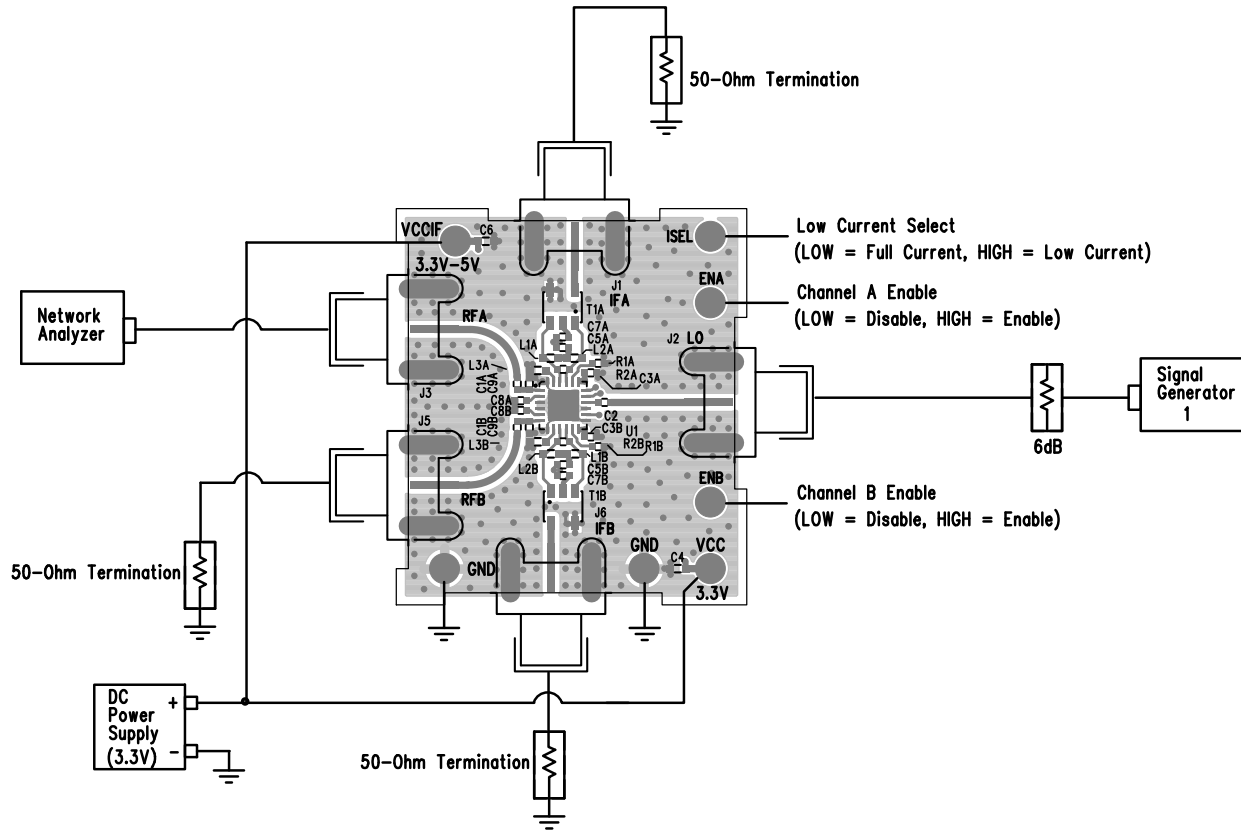
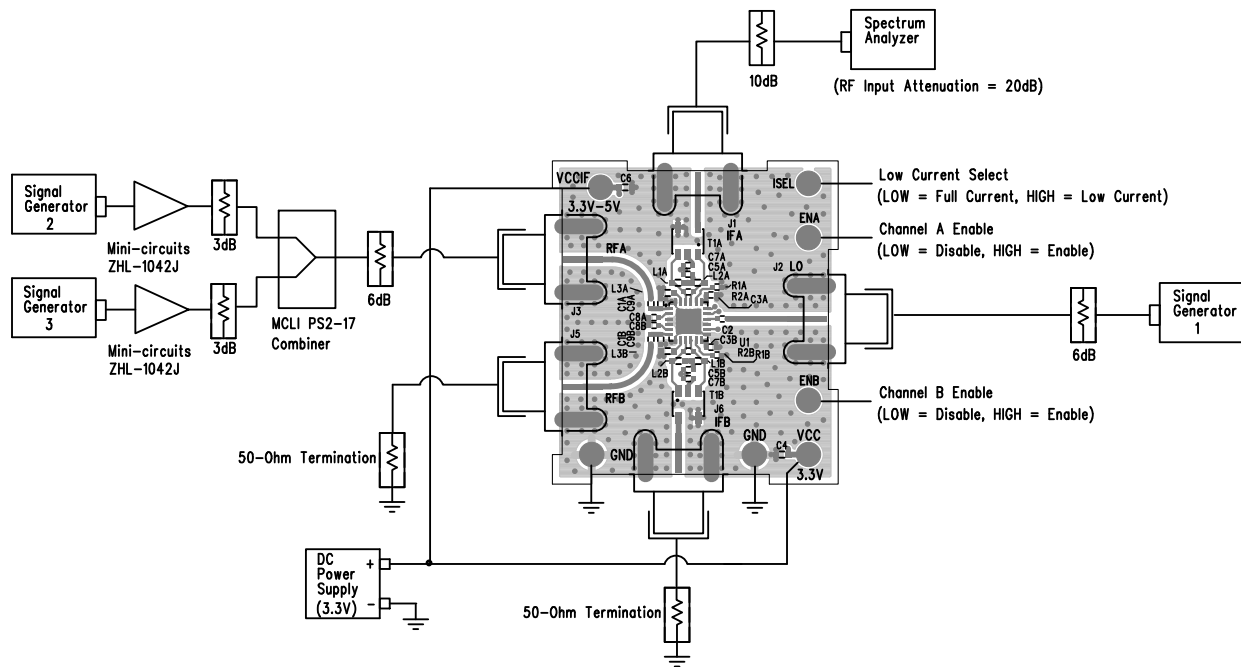

Figure 5. Proper Equipment Setup for Return Loss Measurements
Figure 6. Proper Equipment Setup for RF Performance Measurements
The LTC5591 is a dual high dynamic range downconverting mixer IC with very high input 3rd order intercept. Accuracy of its performance measurement is highly dependent on equipment setup and measurement technique. The recommended measurement setups are presented in Figure 5, Figure 6, and Figure 7. The following precautions should be observed:
The LTC5591 consists of high linearity passive double-balanced mixer cores and IF buffer amplifiers. Due to the bi-directional nature of all passive mixers the $\text{LO} \pm \text{IF}$ mixing products, also referred to as pseudo-image spurs, are always present at the RF input, typically at a level 12dB below the RF input signal. Mismatched impedances at the pseudo-image spur frequencies, such as when filters are used for SSB NF measurements, can significantly impact the linearity and noise figure measurements. To avoid interference from the pseudo-image spurs, terminate the RF input port with an isolator, diplexer, or attenuator. In the recommended measurement setups presented in Figure 6 and Figure 7, the 6dB attenuator pad at the demonstration circuit's RF input serves this purpose.
Demonstration circuit 1710A-B is easy to set up to evaluate the performance of the LTC5591. Refer to Figure 5, Figure 6, and Figure 7 for proper equipment connections. The following procedures describe performing measurements on Mixer Channel A. The measurement procedures for Mixer Channel B are identical.
3. Connect all test equipment as shown in Figure 5 with the signal generator and the DC power supply turned off.
- Connect all test equipment as shown in Figure 6 with the signal generators and the DC power supply turned off.